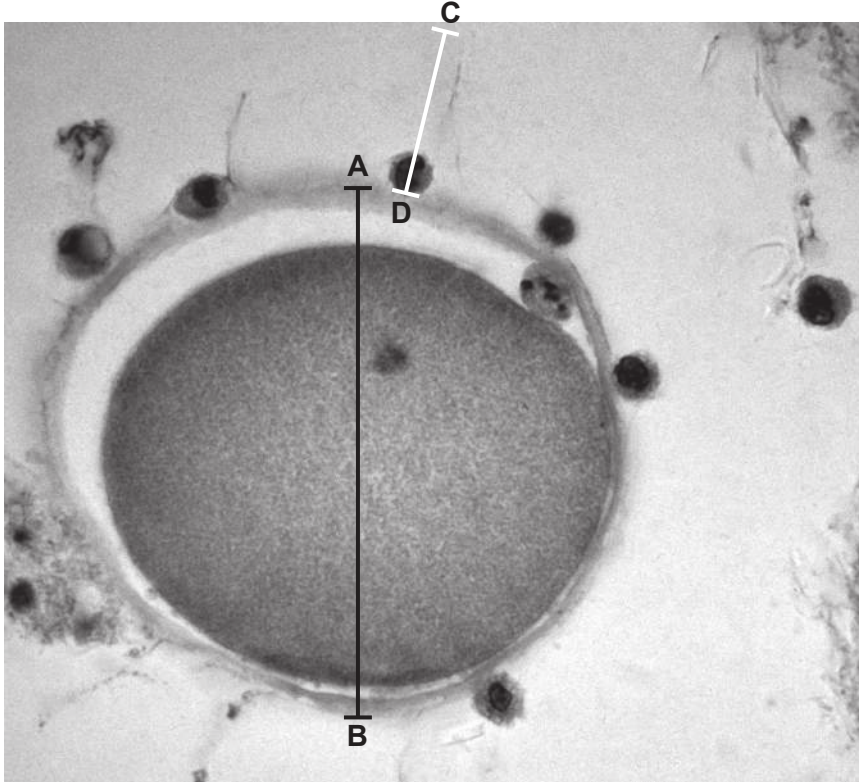

Fig. 2.1
- (i) Measure the lengths of lines **AB** and **CD** on Fig. 2.1. Include the unit.
Calculate the magnification of the ovum in Fig. 2.1 using the formula:
$$\text{magnification} = \frac{\text{length of line } \mathbf{AB} \text{ on Fig. 2.1}}{\text{actual diameter of ovum}}$$
$$\text{magnification} = \frac{\text{length of line } \mathbf{CD} \text{ on Fig. 2.1}}{\text{actual length of sperm cell}}$$